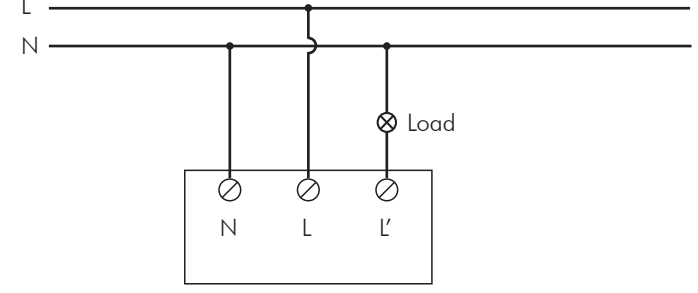
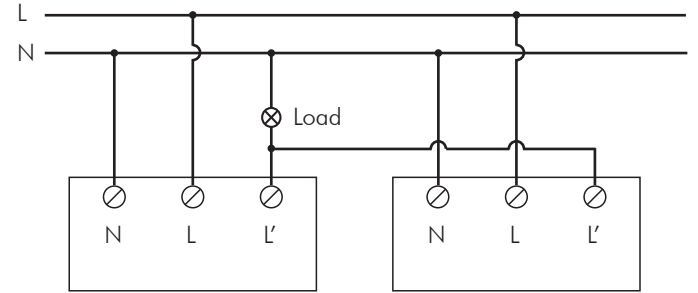
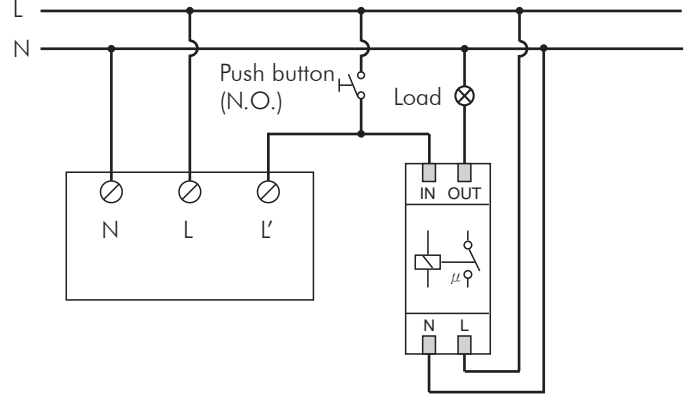

FIG.6
FIG.7
FIG.8
3.2.1 One detector controls one load (See FIG.6).
3.2.2 Two detectors control one load (See FIG.7).
3.2.3 One detector controls staircase timer (Set time knob to $\sqrt{15}L$) (See FIG.8).
3.3.3 Refer to the wiring diagram (See FIG.6 & FIG.7 & FIG.8) to insert the power cables into the corresponding terminals.